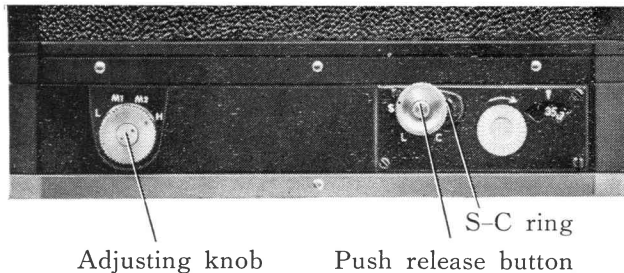

Fig. 7
- The firing rate adjusting knob on the back (Fig. 7) should be set at "H" position in order to reduce vibration to a minimum.